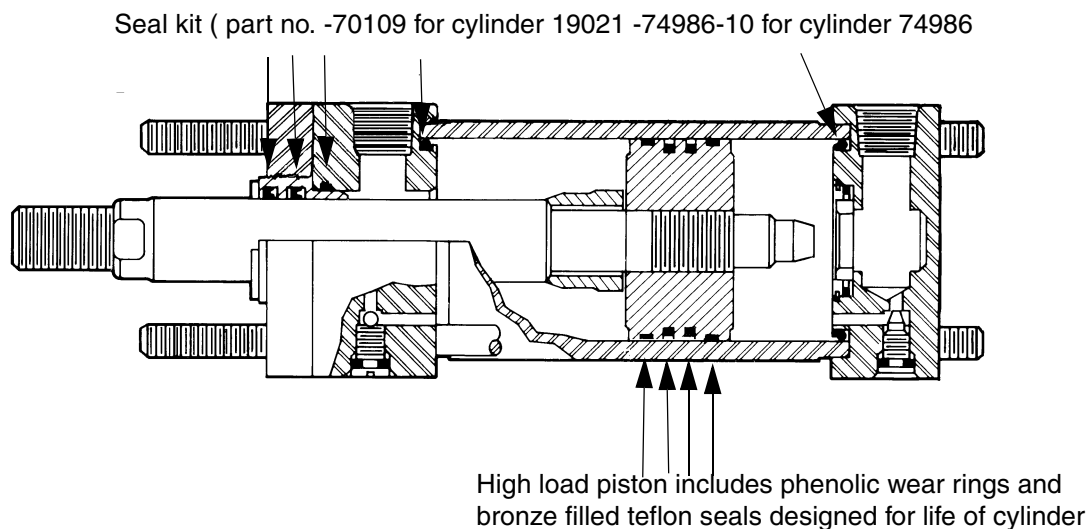

Figure 6. **Clamping cylinder seal locations**
- Disassemble cylinder to replace faulty O-rings (see figure 6)
- Use NOV Part no 70109 or 74986-10 seal kit. (see figure 6 to determine which seal kit)